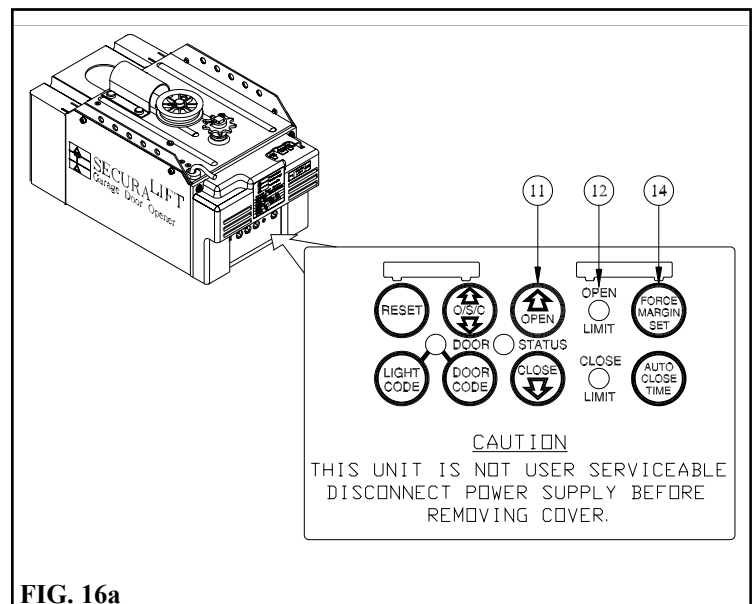

FIG. 16a
1. Press and hold the Force Margin Set button 14 (FIG. 16a).